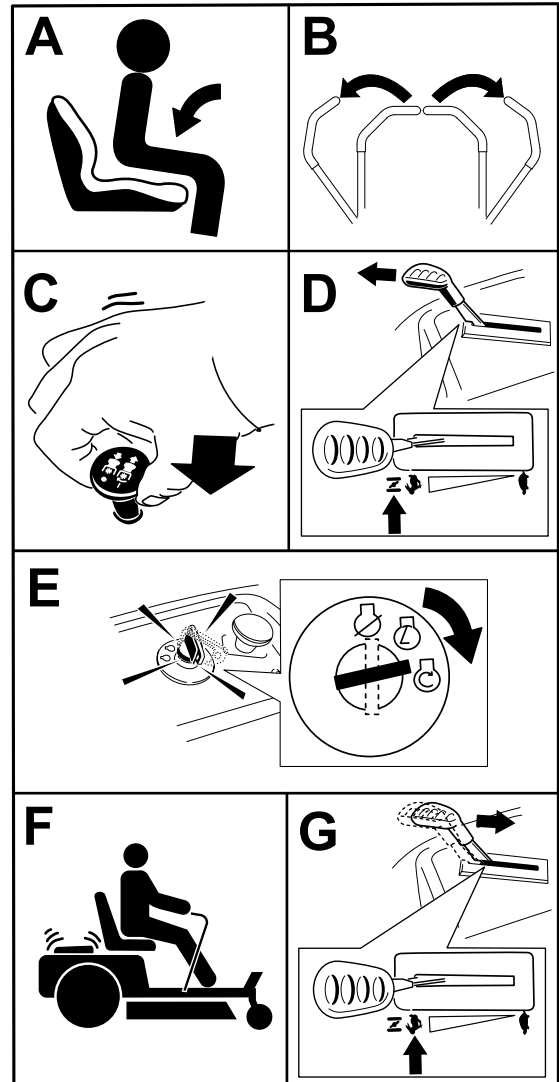

Figure 23
**Note:** It may be necessary to hold the lever against the stop, in the choke position, while trying to start the engine (Figure 23).
1. Disengage the blades by moving the blade-control switch to the OFF position (Figure 23).